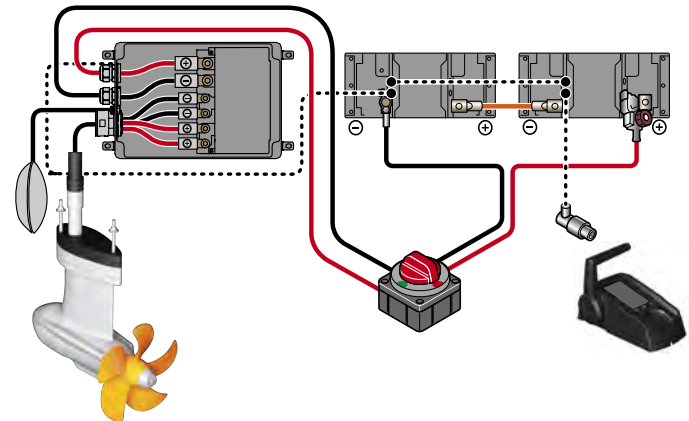

Fig. 56: Wiring diagram for Power 26-104
2. Connect the remaining cables to the batteries, see **"Fig. 56: Wiring diagram for Power 26-104"**.